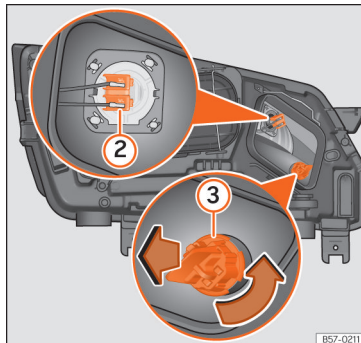

Fig. 56 In the engine compartment: main beam headlight bulb ② and turn signal bulb ③.
- Slide connector »» Fig. 56 ② to the left or right and pull.
- Turn the bulb holder »» Fig. 56 ③ anticlockwise and pull.